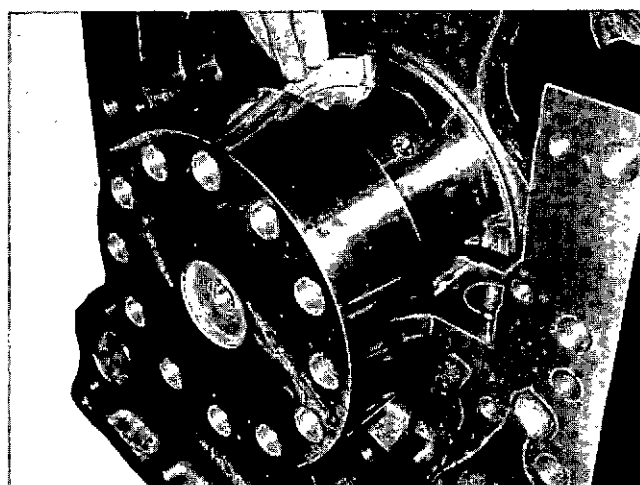

Fig. 14-1-3, V414214. Install thrust half-rings
5. Slide upper thrust rings in position around No. 7 journal. Fig. 14-1-3. Lower thrust rings are dowelled to main bearing caps and hold upper rings in position.